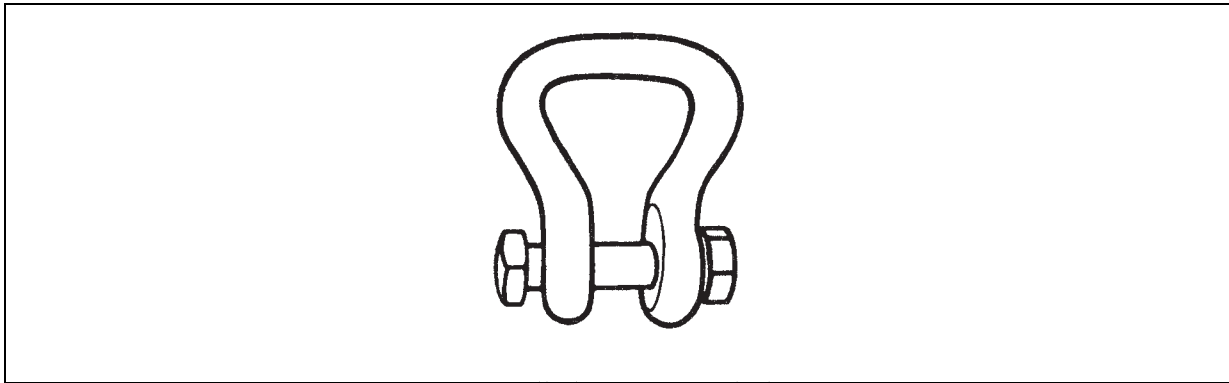

Figure 8-34. Small Clevis Assembly (Part No. MS 70087-1)
- **Small Clevis.** The maximum load weight that can be lifted using a small clevis (figure 8-34) at the ends of a four-legged sling set is 15,000 pounds. If the load has two or three attachment points, the maximum load weight is 7,500 and 11,250 pounds, respectively. The small clevis can also be used to lift a load that weighs up to 6,250 pounds if it has only one attachment point. The small clevis is identified by a 5/8-inch bolt and nut.